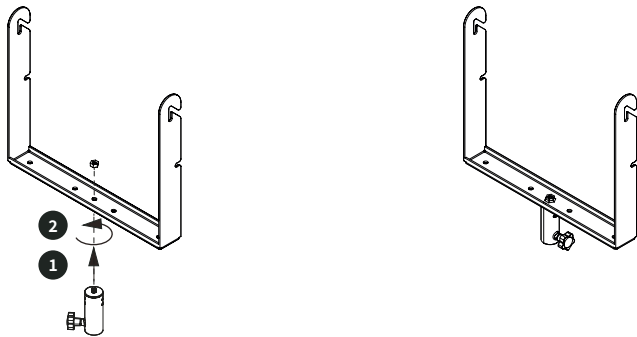

**Figure 8.** Attaching the **SMX 12UB** U-bracket to the **SMX 12A** monitor.
9. Push the U-bracket until the handle screw is in position **B** of the U-bracket's arm, as shown in figure 8. Tighten softly the handle screws.